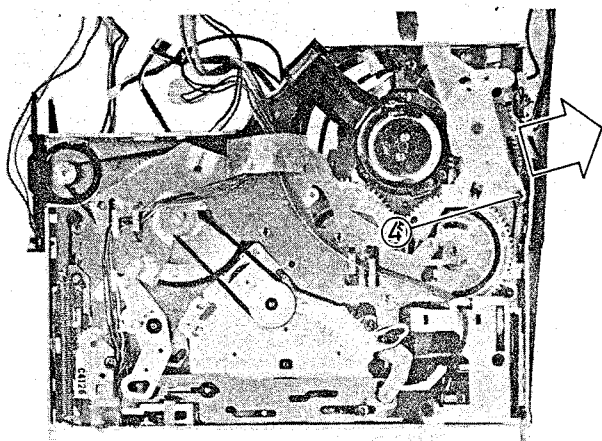

Fig. 2-78 Mechanism State Switch Removal
4. Remove one (1) screw holding the mechanism state switch. (See Fig. 2-78)